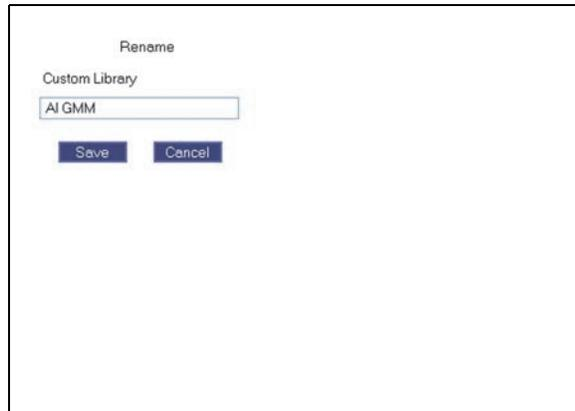

Figure 2-16 The Rename [library] pane
2. In the **Custom Library** box, type a new library name (see Figure 2-16 on page 59).